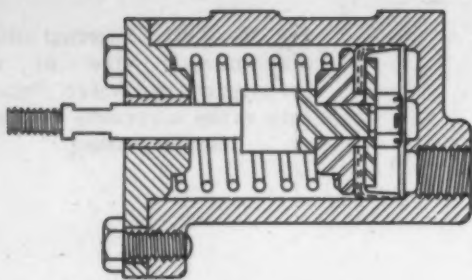

Fig. 22—Left—Typical single-acting cylinder with spring return
**RECEIVERS:** Receivers or actuating devices include single and double acting cylinders, *Fig. 22*, which are used for many purposes. They vary in diameter from less than an inch to several feet, and have strokes of almost any reasonable value. Cylinders with strokes of 15 feet or more are not uncommon. Where very short strokes are required and an absolute minimum of friction is desired, a rubber or metal diaphragm can be used.